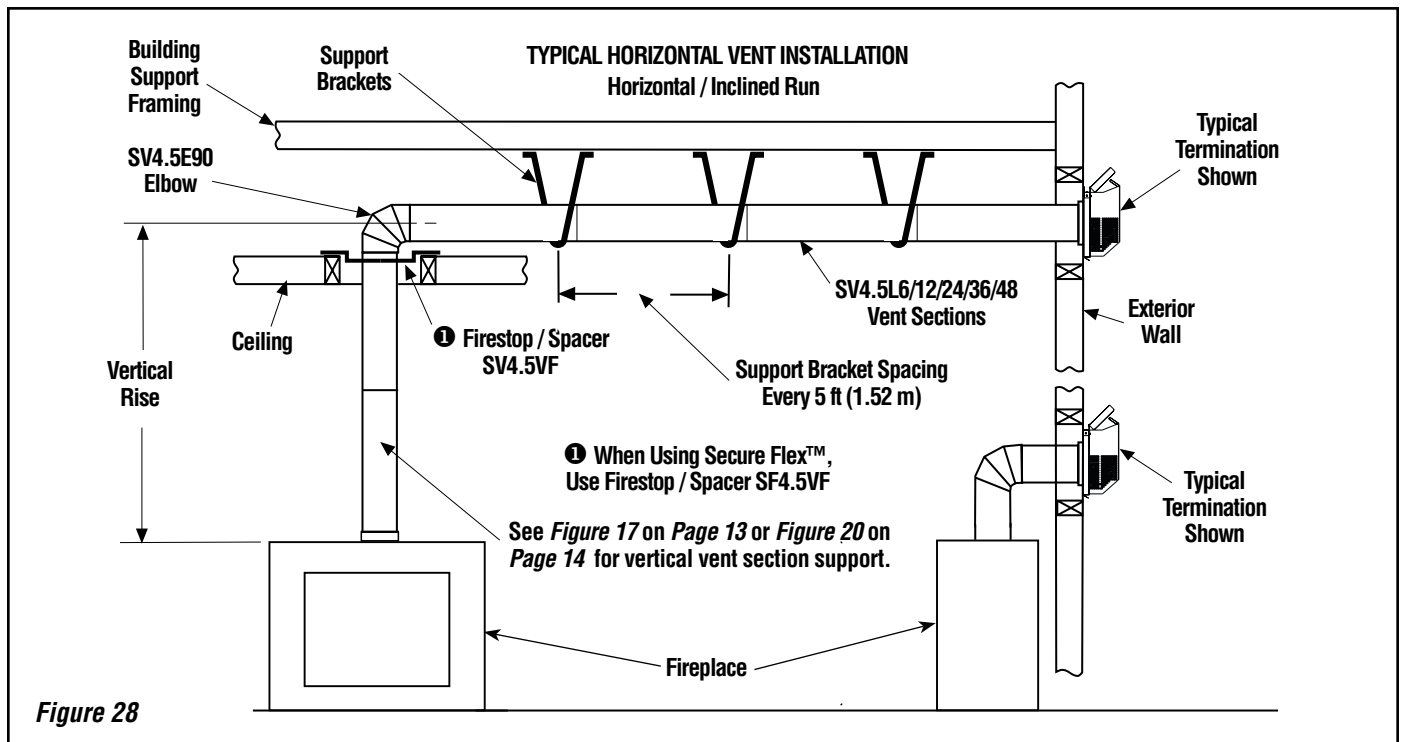

Figure 28
G. Continue installation of horizontal/inclined sections - Continue with the installation of the straight vent sections in horizontal/inclined run as described in **Step C**. Install support straps every 5 ft. (1.52 m) along horizontal/inclined vent runs using conventional plumber's tape. **See Page 18, Figure 28. It is very important that the horizontal/inclined run be maintained in a straight (no dips) and recommended to be in a slightly elevated plane, in a direction away from the fireplace of 1/4" rise per foot (20 mm per meter) which is ideal,** though rise per foot run ratios that are smaller are acceptable all the way down to at or near level. Use a carpenter's level to measure from a constant surface and adjust the support straps as necessary.
See **Figure 28** on **Page 18**, and **Figures 29 through 34** on **Pages 19 through 22** and their associated Horizontal Vent Table which illustrate the various horizontal venting configurations that are possible for use with these appliances. **Secure Vent™** pipe applications are shown in these Figures; **Secure Flex** pipe may also be used. A Horizontal Vent Table summarizes each system's minimum and maximum vertical and horizontal length values that can be used to design and install the vent components in a variety of applications.
See **Figure 28**. **It is very important that the horizontal/inclined run be maintained in a straight (no dips) and recommended to be in a slightly elevated plane, in a direction away from the fireplace of 1/4" rise per foot (20 mm per meter) which is ideal**, though rise per foot run ratios that are smaller are acceptable all the way down to at or near level.